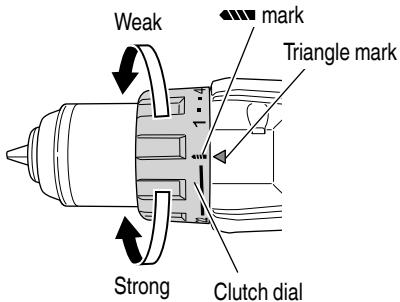

Fig. 12
6. Confirm the clutch dial position (See Fig. 12).
- (2) Tightening torque indication (See Figs. 12 and 14)
- (3) Adjusting the tightening torque (See Figs. 12 and 14)